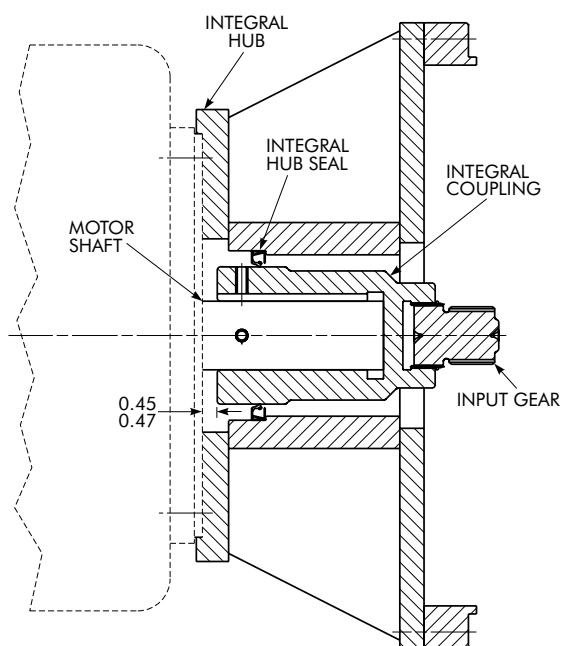

Figure 2.3.4
2. Locate the coupling 0.45 to 0.47 inches from the motor face, reference Figure 2.3.4.